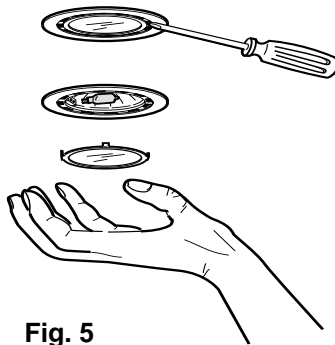

Fig. 5
- Remove the lamp cover, use a screw driver as a lever. **Fig. 5.**